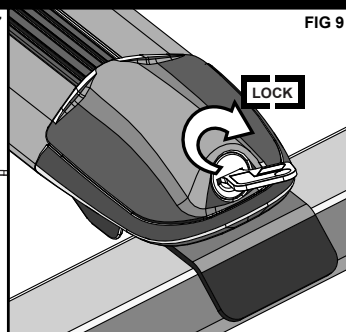

FIG 9
10. Your Cover keys should now be inserted into all 4 covers. With the keys in place, lock the cylinder by rotating 1/4 turn clockwise (Fig 9). Repeat this process for all 4 Covers. Please store the keys in a safe place, i.e.. with car keys or in vehicle's glove compartment.